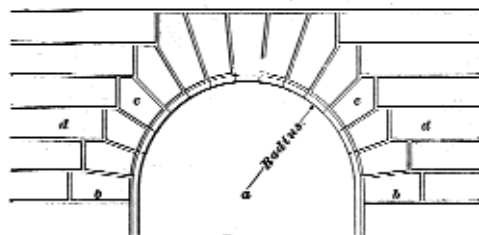

FIG. 49.
**95.** Arches that are used in coursed ashlar are often built as shown in Figs. 49 and 50. In each of these, a is